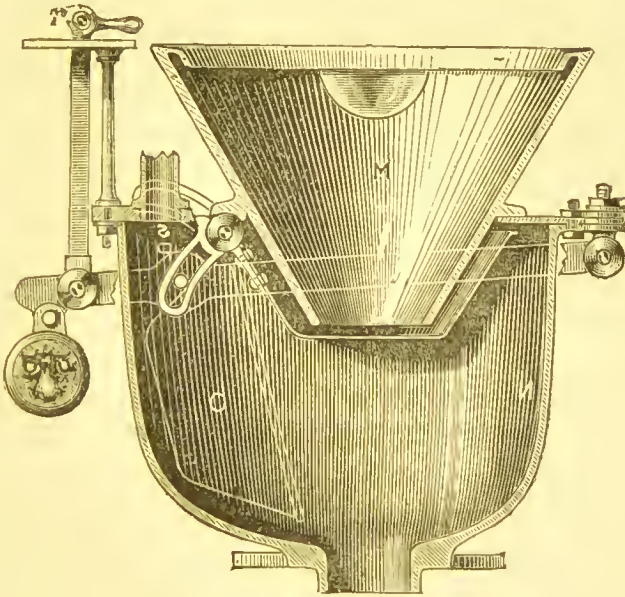

FIG. 24. SECTION.
*Pan* water-closet apparatus (see Section, Fig. 24). The writer has always been puzzled to
The *receiver*,\* N, Fig. 24, is a large cast-iron receiver, or vessel, for the copper pan, O, to work inside, and to receive its contents when the water-closet is used. The vessel, O, is a copper
On pulling up the handle, *r*, Fig. 24, the contents of the basin, M, after usage, are thrown into the receiver, N, by the copper pan, O, and pass into the trap under the apparatus. But a glance at this apparatus in Section, Fig. 24, will show the impossibility of keeping it wholesome. The deposit is dashed against the side of the "receiver," N, by the tipping out of the pan, O, and is splashed from side to side of the receiver and all over the *outer side* of the *copper pan*, before it finally finds its way into the water-closet trap and soil-pipe. This filth, splashed about over the receiver and copper pan, is left to corrode, and to be added to by each usage of the closet, for it is impossible to get at it to clear it away, and especially the *under or outer side* of the copper pan, the *back part* of the *receiver* where the copper pan is hinged, and the *under side* of the top, P. Moreover, the basin, M, though made of pottery-ware, gets completely corroded with soil and urine up to the water-line on the *outer side* next the copper pan; and there is
\* This apparatus takes its name from this "pan," and not from the basin, M, Fig. 24.
It is supposed by many that the copper pan, o, Fig. 24, when at rest, shuts off, by the dip of the basin into its water, the "container," N. Well, it does so, *but very imperfectly*, for any bad air in the "container" can always escape through the holes in its side where the axis is hinged. And if it does not escape there, it can easily find its way through the *air-hole* in the top of the "container," unless there is an air-pipe from it, which is very rarely the case. This air-hole in the top of the "container" is to give vent to the apparatus when in action, to allow the discharge to pass freely from the basin into the container.
Where such an apparatus is used, an *air-pipe*, s, Fig. 24, should always be taken from the vent-hole at the top of the container through the external wall, and its diameter should not be less than  $\frac{3}{4}$  in. This air-pipe\* must not be connected with any other ventilating-pipe, to soil-pipes, traps, or what not, but must go out separate to the external air.
These water-closets are very much improved by using "containers," or receivers, N, Fig. 24, *enamelled with porcelain on the inside*, and the extra cost of this is only about seven or eight shillings.